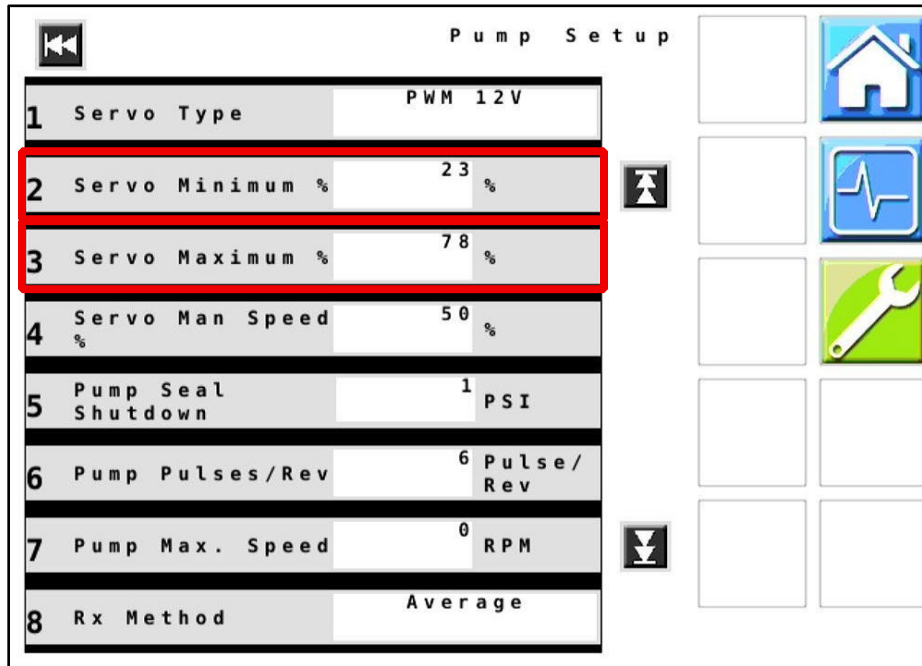

Figure 11 — Pump Setup – Page 1
24. **Figures 11 & 12:** Verify that all values displayed on your unit match those shown here. Change values if necessary.